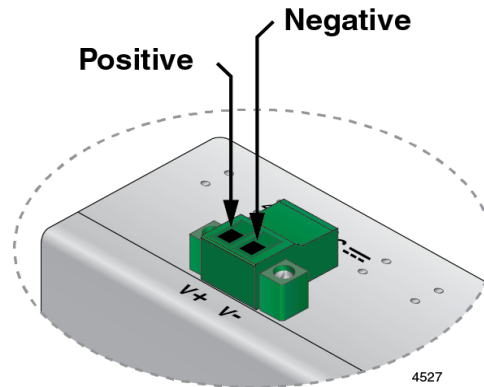

Figure 22. Locating the Terminals on the DC Terminal Block
1. Identify the **positive** and **negative** terminals on the DC power supply terminal block, as shown in Figure 22.